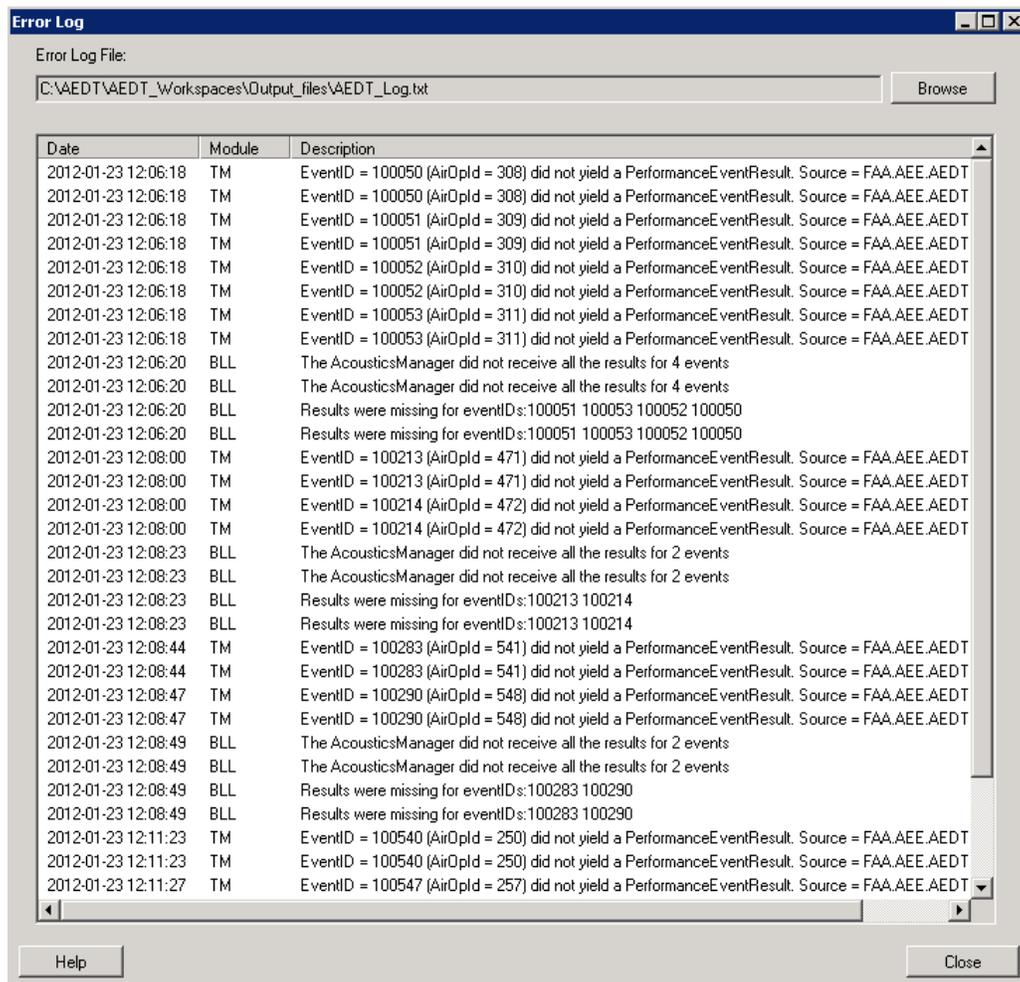

Figure 6-9 Error Log Dialog Box
2. The *Error Log* dialog box displays the content from the most recent log file, *AEDT\_Log.txt*. It shows date and time, module name, and description of each error present in the study (Figure 6-9).
6. After the file has been selected, the error log table will be populated (Figure 6-9).